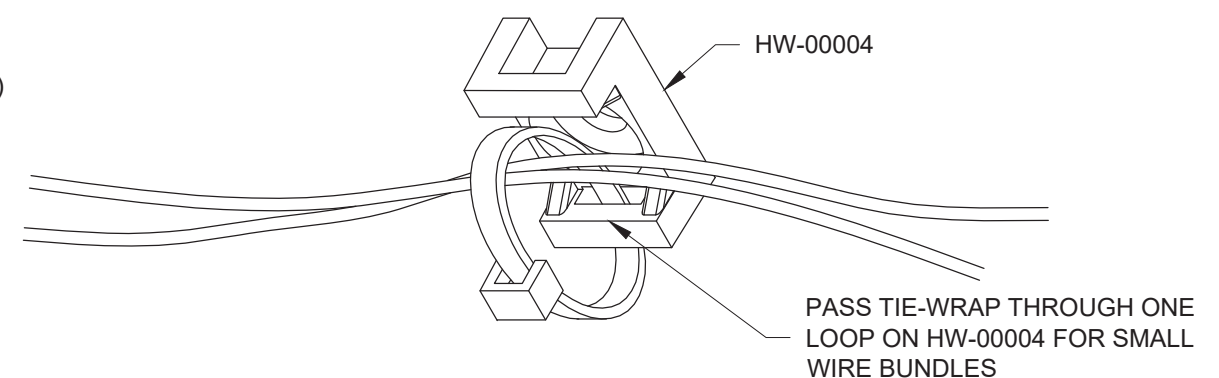

FIGURE 3: SECURING SMALL BUNDLES TO HW-00004
Step 5: Route the fuel sender wiring along the bottom of the Mid Fuse Brace, securing them to the HW-00004 with a tie wrap. See Figure 1 for wire routing and callouts, and Figure 3 for wire securing details.